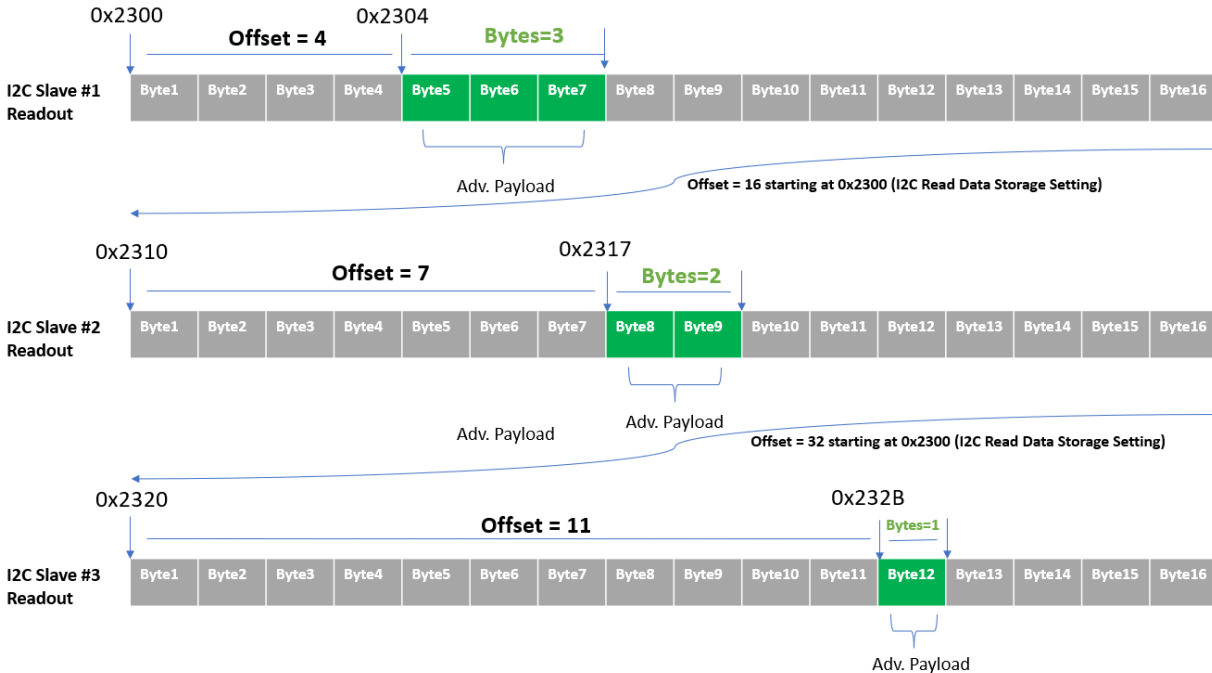

Figure 41 : I2C read data as adv. payload
- I2C Slave #1 Read Data: the data of an I2C Slave #1 data read out with a given I2C Slave #1 read address (default address is 0x2300). Read address **Offset** and read length (**Bytes**) can be entered in bytes. The read data can be added to the payload with small or big endianness and encryption options. Only the selected read data will be advertised on the data payload. An example is shown in Figure 41. The offset is 4, and number of bytes is 3. Given these settings, the device will only advertise 3 bytes of I2C read data starting from the address of 0x2304.
- I2C Slave #2 Read Data the data of an I2C Slave #2 data read out with a given I2C Slave #2 read address (default address is 0x2310). Read address **Offset** and read length (**Bytes**) can be entered in bytes. The read data can be added to the payload with small or big endianness and encryption options. Only the selected read data will be advertised on the data payload. An example is shown in Figure 41.
- I2C Slave #3 Read Data: the data of an I2C Slave #3 data read out with a given I2C Slave #3 read address (default address is 0x2320). Read address **Offset** and read length (**Bytes**) can be entered in bytes. The read data can be added to the payload with small or big endianness and encryption options. Only the selected read data will be advertised on the data payload. An example is shown in Figure 41.